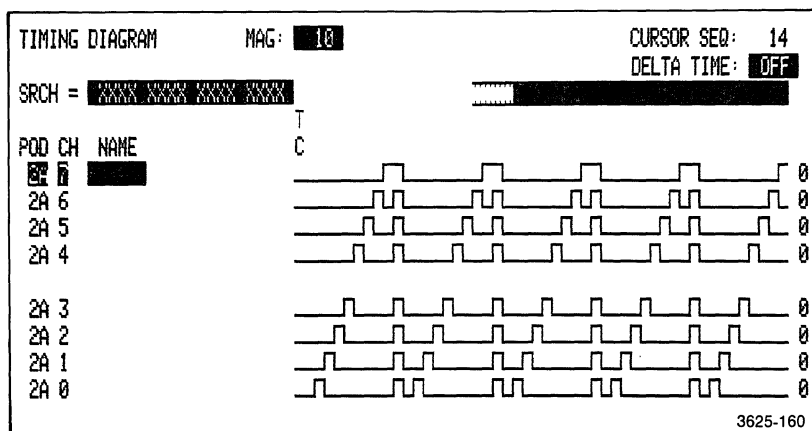

Figure 5-32. Pattern generator external clock line test results.
8. When acquisition is finished, examine the Timing Diagram menu. The data acquired from the Pattern Generator should look like the data shown in Figure 5-32.
A display like Figure 5-32 means the pattern generator external clock is being properly received and processed. The next steps verify the operation of the inversion of the external clock signal.
11. When acquisition is finished, examine the Timing Diagram menu. The data acquired from the Pattern Generator should again look like the data shown in Figure 5-32.